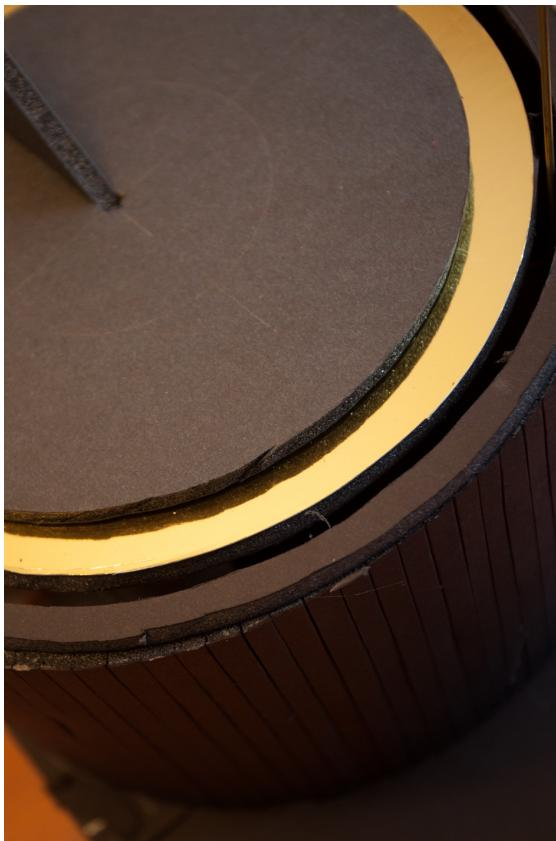

Figure 7-13 Don't block the track with the curved support
6. Position your base disk on the base walls and figure out where the curved disk support needs to fit against the front wall of the sundial. It's important that the disk support wall support the base disk but not block the inner track (Figure 7-13).